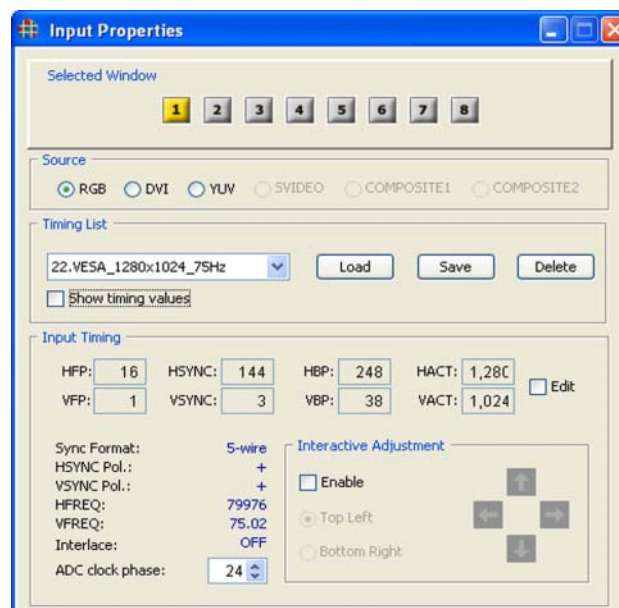

Figure 5-4. WCP Input Properties Page
- Click on the **UP** button next to the **ADC clock phase** (Figure 5-4) spin box and view the output image. If the image quality deteriorates, click on the **DOWN** button and continue clicking on the button until the image quality stops improving.